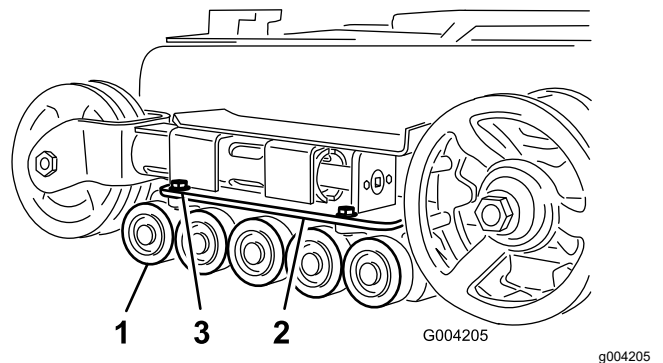

Figure 55
2. Remove the 4 bolts securing each lower track guide which contains the road wheels, and remove them (Figure 55).